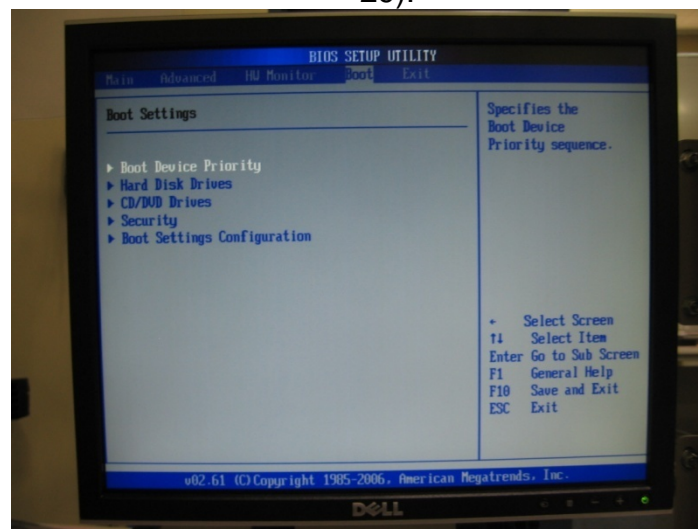
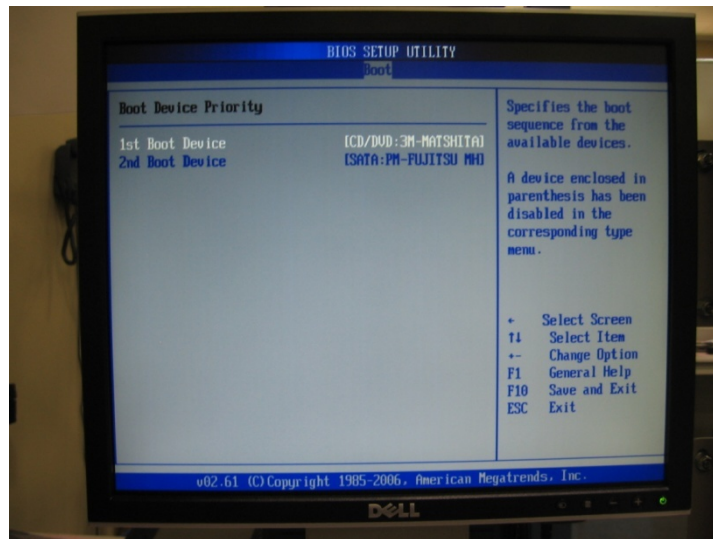

Figure 7-29 Boot Devices Screen.
Figure 7-30 Boot Devices Settings Screen.
2. On the **Advanced** options screen, scroll across and select **Boot** tab. Press **Enter**. (Figure 7-29). Figure 7-30, 7-31, and 7-32 show the various default settings. Leave on Default then press **Escape** to return back to the **Advanced** settings Screen. (Figure 8-29).
3. Default **Boot Devices Settings** (Figure 7-30). Then press **Escape** to return to **Boot** options screen.